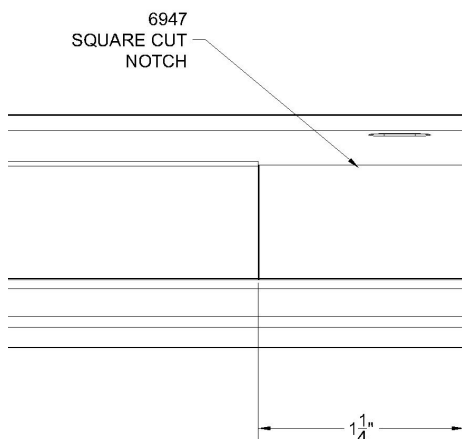

Fig. 1
- b) Use an oscillating tool and notch out channel of the trim 1-1/4" for the siding to be accepted within both trim J-channels (Fig. 1 and 2).